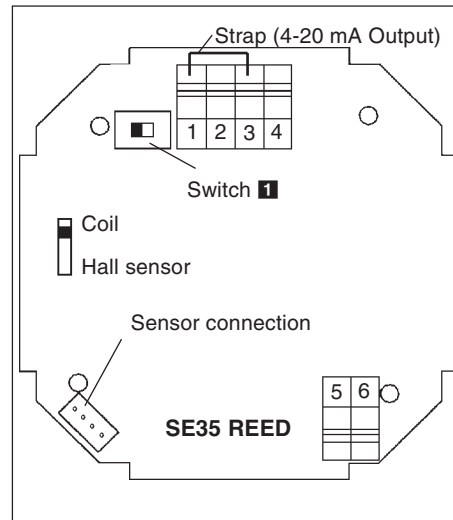
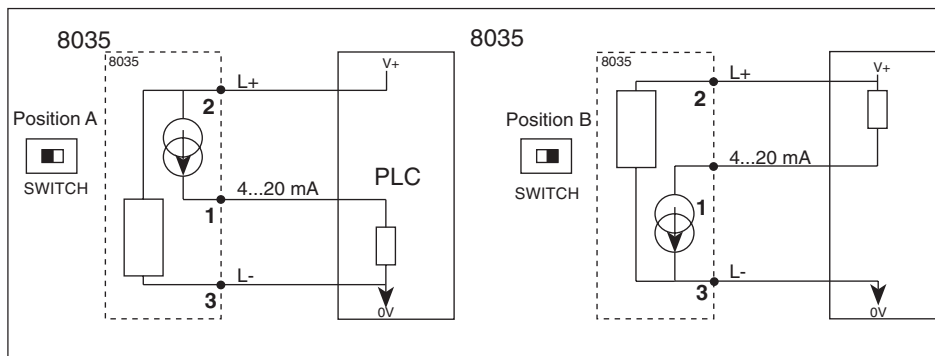

Fig. 3.9 Wiring SE35 with relay REED
Fig. 3.10 SE35 with relay REED, 4-20 mA output connection to a PLC
Ensure the electrical wiring via 2 cable glands. Remove cover, pull cable through PG 13.5 and wire according to following pin assignment (fig. 3.9):
**PLC-connection:** Depending on the PLC-version, set the switch **1** on the circuit board to position A or B (fig. 3.9 and fig. 3.10).
**4-20 mA Output:** If the 4-20 mA current output is used, remove the strap (1-3) (fig. 3.9).
**Warning:** If the current output 4...20 mA is not used: set the switch **1** in position A (fig. 3.10) and the strap between 1-3 (fig. 3.9).
If the current output 4...20 mA is not used: set the switch **1** in position A (fig. 3.10) and the strap between 1-3 (fig. 3.9).